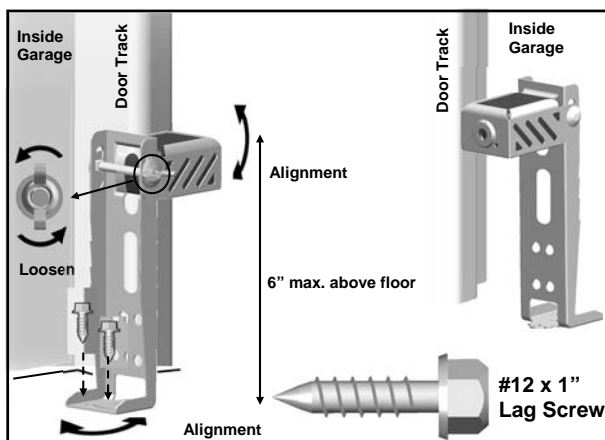

Fig. 2 (Floor Mount)
1. Place the Photo Eyes facing each other on each side of the garage door, as shown in Fig.2.